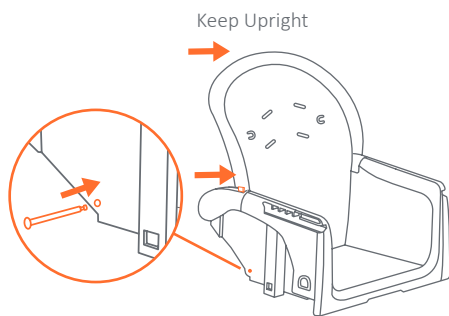

Fig. 5b
- **Important Pin Set Up:** The backrest must be in the most upright position before inserting the pins (Fig. 5b).